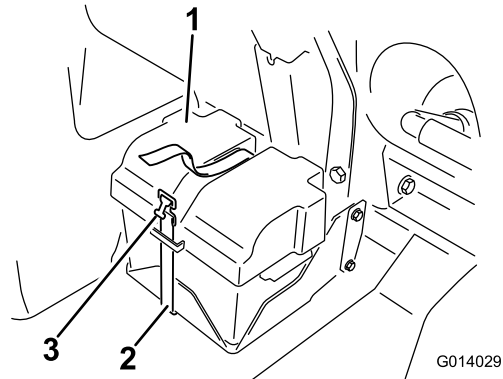

Figure 84
2. Remove the battery cover and disconnect the negative (black) ground cable from the battery post (Figure 84).
4. Install the battery cover and secure it with the strap that you removed previously (Figure 84).